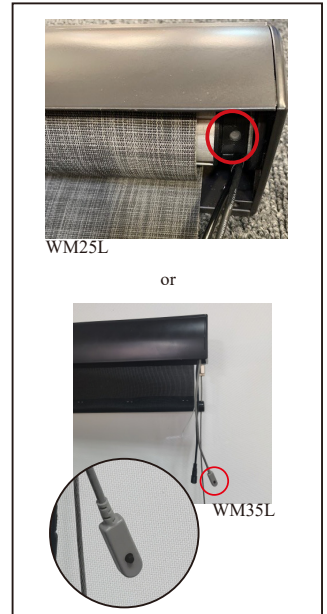

Fig 28
Press and hold clear button on motor for about 14-16 seconds until the motor jogs 4 times (Fig 28).
1. Press the "clear" button on motor (Fig 28) until shade jogs 1 time.